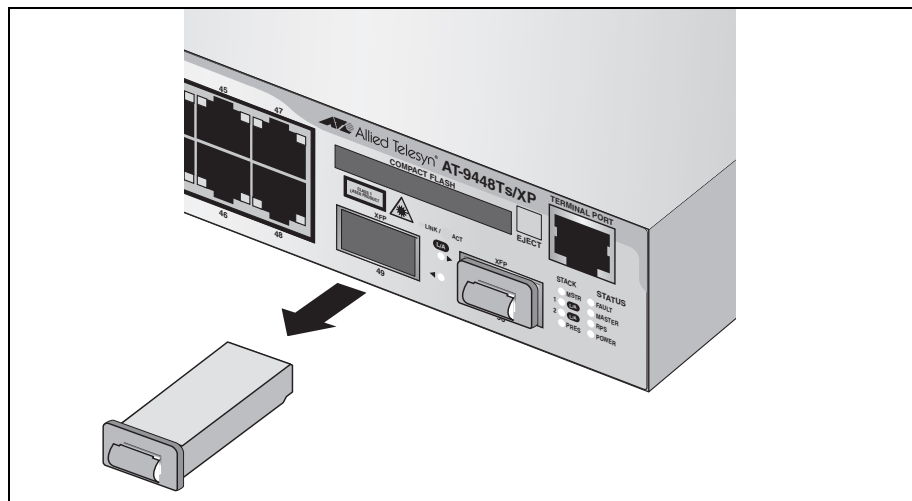

Figure 35. Removing an XFP Dust Plug
1. Remove the dust plug from a transceiver slot on the switch. Refer to Figure 35.